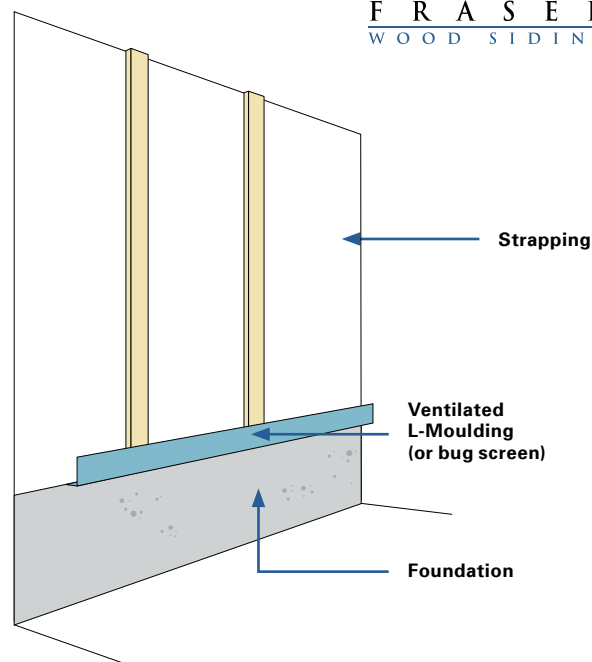

Fig. 10
- Attach with two nails every 16". (See Figure 10)